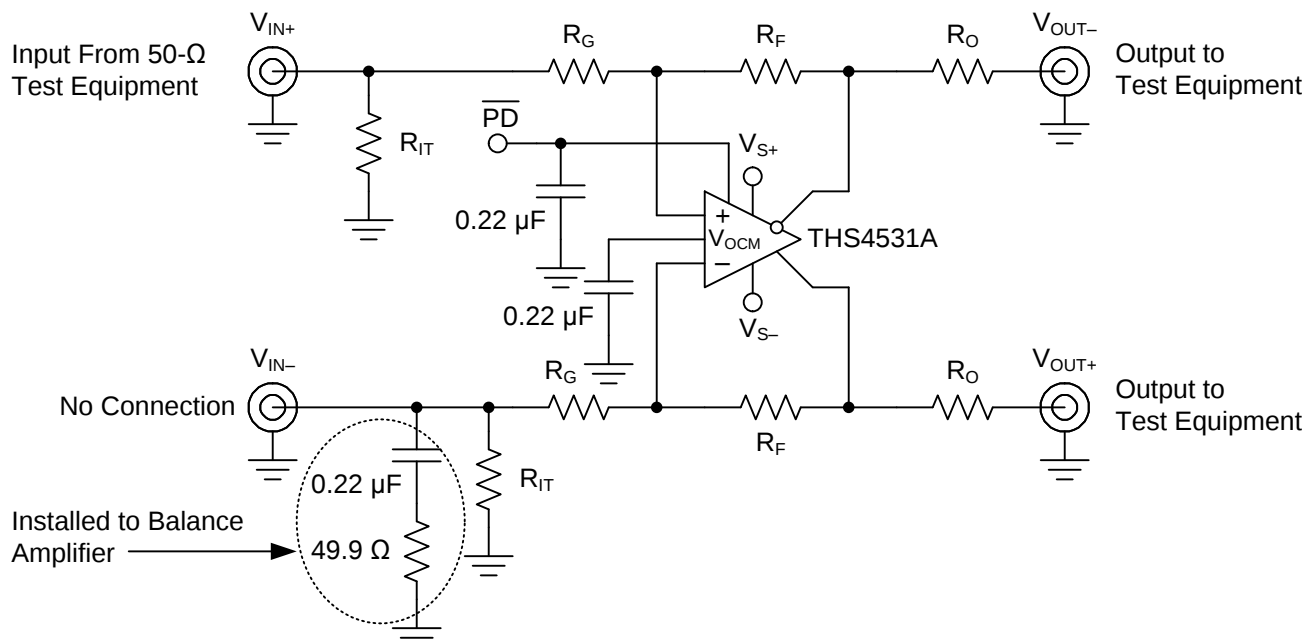
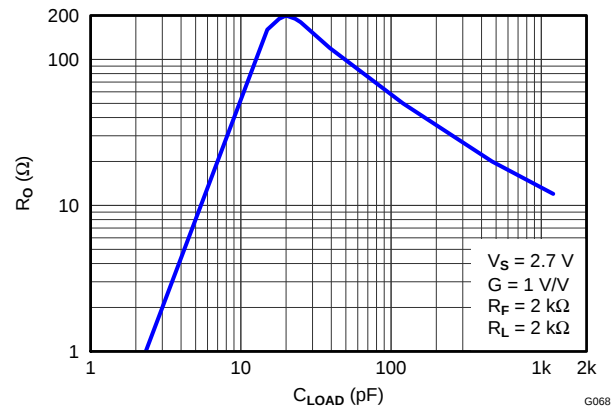
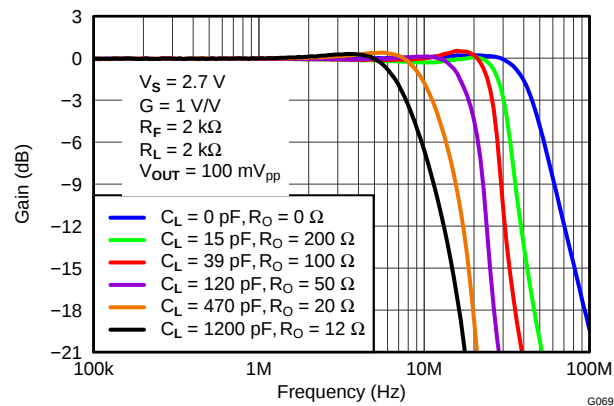

Figure 69. Slew Rate, Transient Response, Settling Time, Z_O , Overdrive Recovery, V_{OUT} Swing, and Turn-on/off Test Circuit
Figure 80. Recommended Series Output Resistor vs Capacitive Load for Flat Frequency Response
Figure 81. Frequency Response for Various R_O and C_L Values
The circuit shown in Figure 69 is used to measure slew rate, transient response, settling time, overdrive recovery, and output voltage swing. Turn on and turn off times are measured with 50 Ω input termination on the $\overline{PD}$ input, by replacing the 0.22 μ F capacitor with 49.9 Ω resistor.
Inserting R_O will compensate the phase shift and restore the phase margin, but it will also limit bandwidth. The circuit shown in Figure 69 is used to test for best R_O versus capacitive loads, C_L , with a capacitance placed differential across the V_{OUT+} and V_{OUT-} along with 2k Ω load resistor, and the output is measure with a differential probe. Figure 80 shows the optimum values of R_O versus capacitive loads, C_L , and Figure 81 shows the frequency response with various values. Performance is the same on both 2.7V and 5V supply.
4. A series output resistor is recommended to be placed as near to the output pin as possible. See Figure 80 "Recommended Series Output Resistor vs. Capacitive Load" for recommended values given expected capacitive load of design.